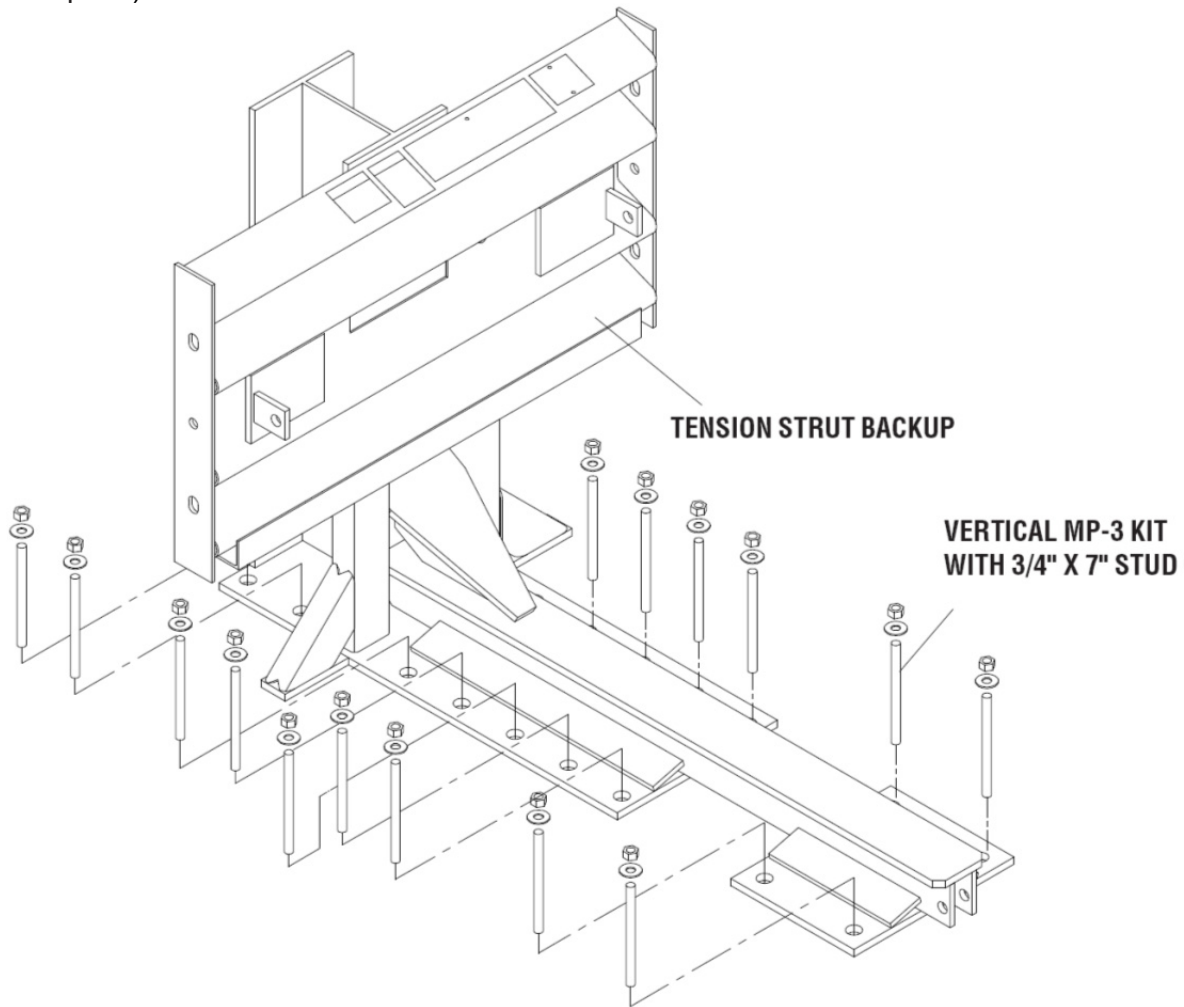
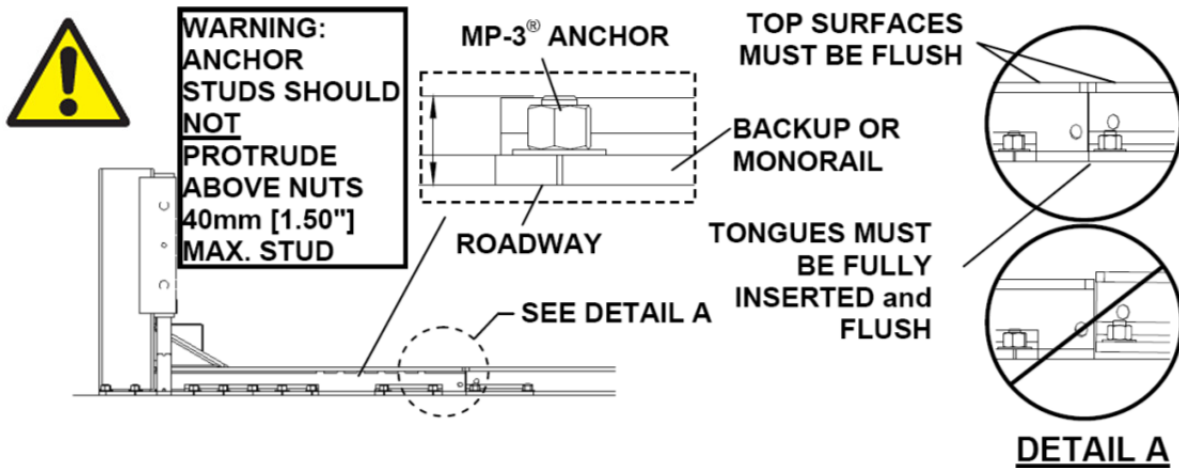

Figure 13
Figure 14
See Figure 13 (showing Backup Assembly) and Figure 14 (showing Monorail deployment). Also refer to the drawing package and the MP-3[®] Polyester Anchoring System Instructions included with this Manual.
A) Tension Strut Backup Assembly (Figure 13)